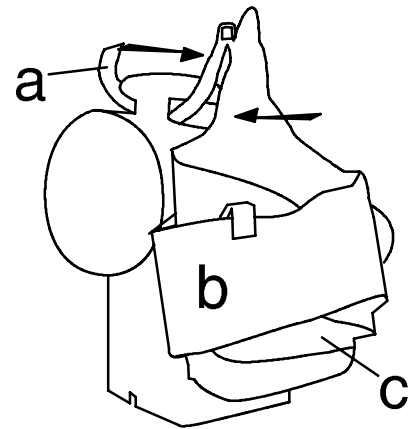

FIG. 9
6. Slide the Velcro® strap (a) under the molded plastic handle of the vacuum and back around over the top of the handle. Attach the end of the strap to the Velcro® tab (Figure 9).